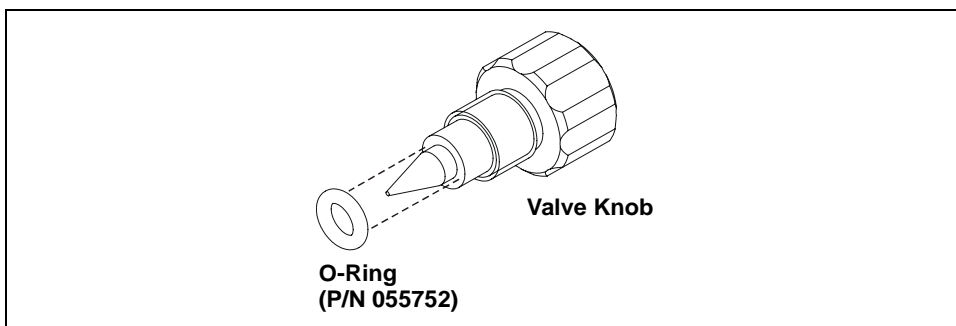

Figure 5-15. Waste Valve or Priming Valve O-Ring Replacement
4. If the O-ring is removed with the valve knob in Step 3, pull the O-ring off the end of the knob (see Figure 5-15). If the O-ring is not removed with the valve knob, insert a thin object (for example, the bent end of a paper clip) into the cavity in the pump head and carefully pull out the O-ring. **Do not scratch the cavity.**